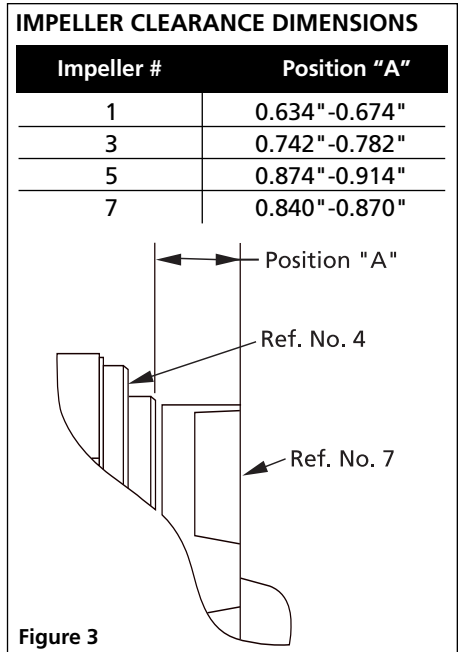

Figure 3
8. By replacing the original shims that came with the pump, the impeller height should be properly set. The chart accompanying figure 3 gives the correct body to impeller height dimension for optimum pump performance. After installing, check if shaft turns freely by spinning impeller. If rubbing or binding is found, remove impeller and add a shim (Ref. No. 6) to shaft, then recheck. Repeat procedure until all rubbing is eliminated.